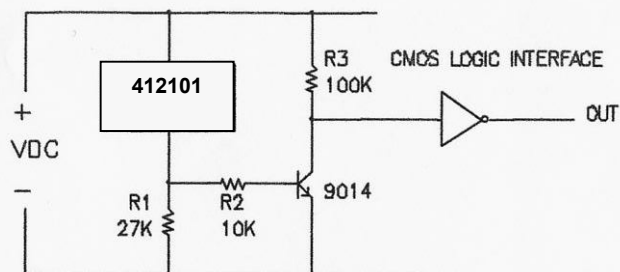

Figure 9
**Fig 9.** This circuit uses a transistor to provide a light level switching interface between the 412101 and CMOS logic. The switching threshold is set by R1 and the base of TR1 as explained for previous circuit examples. The OUT signal will be high when the illumination is above the threshold and low when it is below the threshold. Using a buffer instead of an inverter will change the polarity of the OUT signal